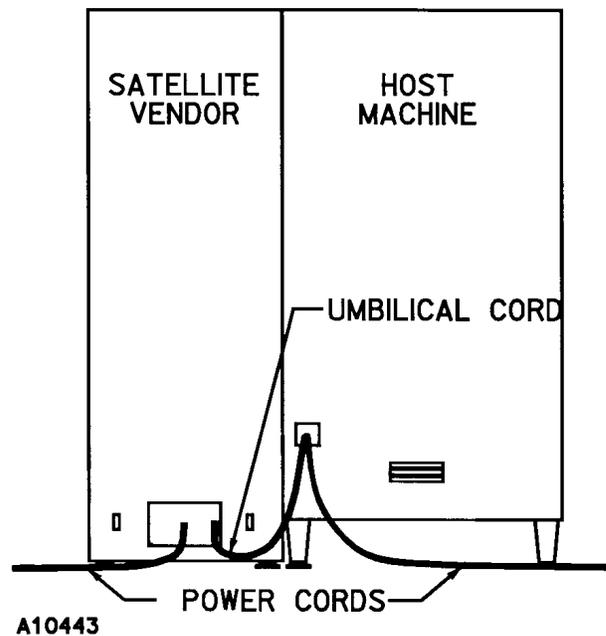

Figure 1. Satellite Umbilical Cord
3. Insert the umbilical cord from the Satellite Vendor through the hole in the back of the host machine and secure the plate attached to the umbilical cord. See Figure 1.
To enter *Service Mode*, push the Mode Button on the backside of the display board, which is mounted near the top right side of the door of the BV IV. See Figure 1. The message **SaLE** should appear in the front panel display. The **SaLE** message indicates that the controller is in the first level of *Service Mode*.